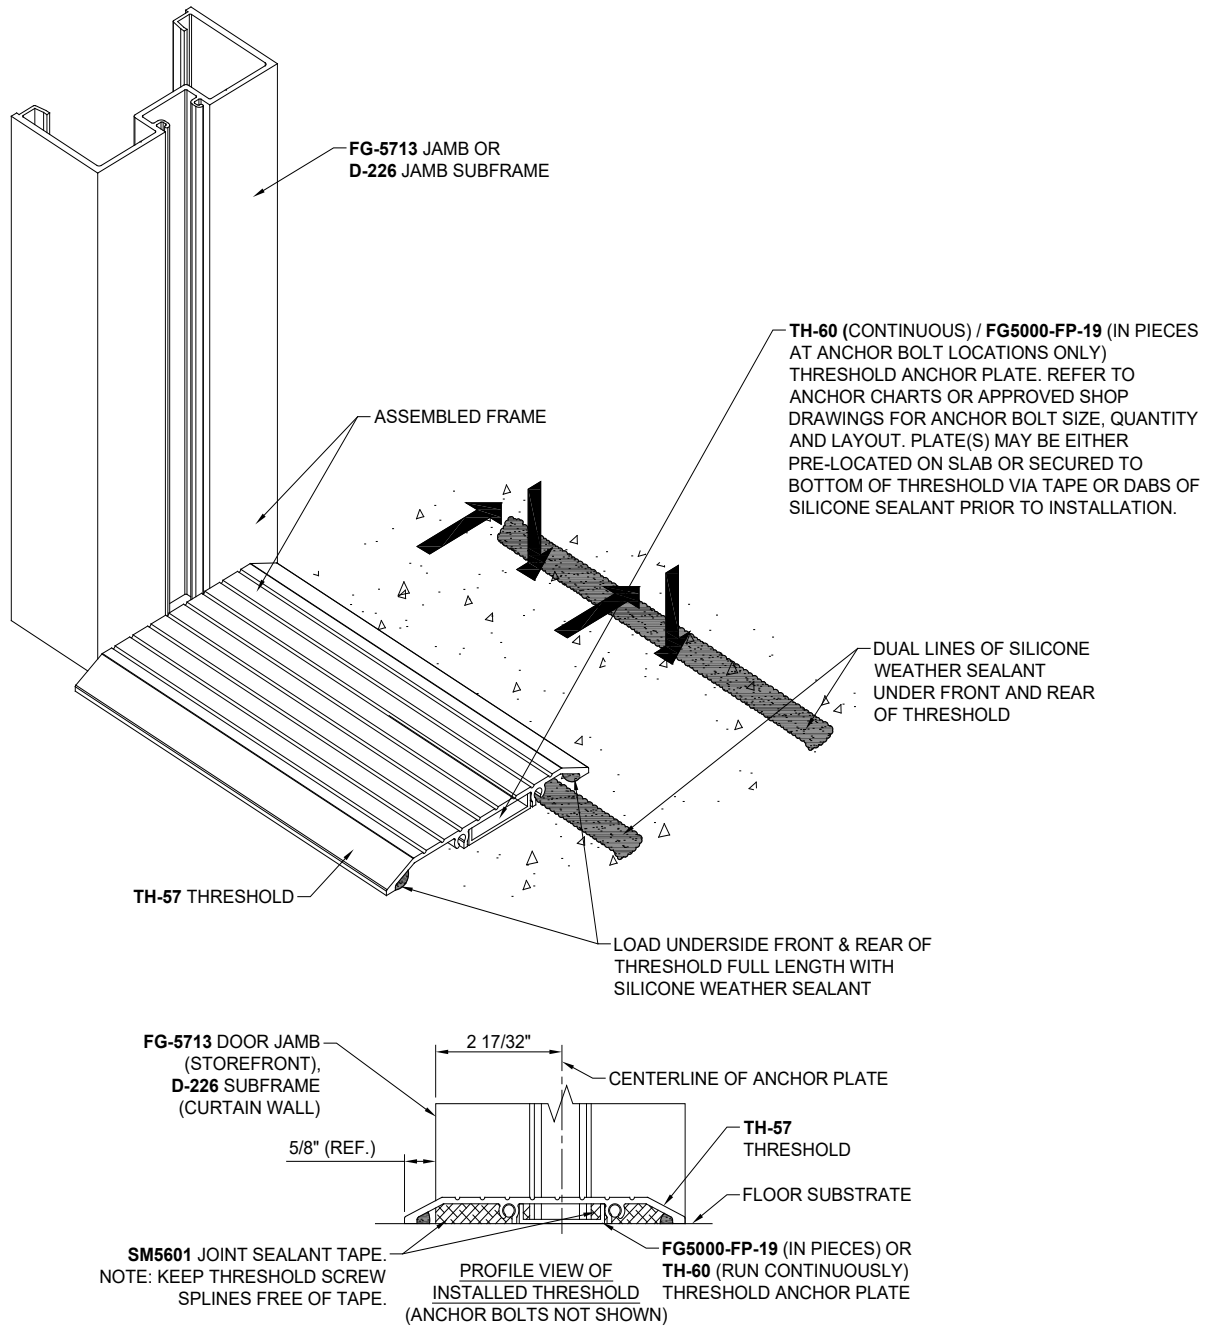

Figure 22: Frame Installation
- 7.2 The Threshold Anchor Plate may be used in pieces at anchor bolts locations only (as **FG5000-FP-19**), or it may be used continuously (as extrusion **TH-60**). The Plate, whether continuous or in pieces, does not attach to the floor substrate. The Anchor Plate is used to ensure anchor bolts do not bend under load. Plate(s) should be drilled for a clear hole at each anchor bolt location. The Plate(s) may be either pre-located on the floor substrate or taped in place or secured via silicone sealant to underside of Threshold to facilitate installation. If pre-located on floor substrate, the centerline of the Plate will be set back 2-17/32" from leading edge of Jamb. Reference Figure 22. Anchor bolt size, quantities, and layout to be determined via structural review. Refer to approved shop drawings.
- 7.7 Install assembled frame. Reference Figure 22.